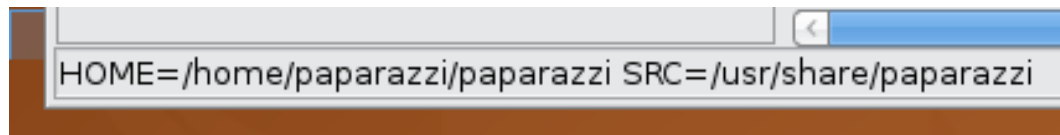

Figure 8: Paparazzi Configuration Files Path
1. Locate your configuration folders from the bottom left corner of the Paparazzi center. See example in Figure 8 on page 39.